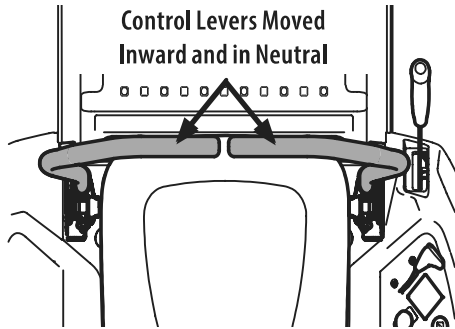

Figure 21
2. Move the RH and LH lapbar drive control levers inward in the neutral position which also disengages the parking brake (Figure 21).